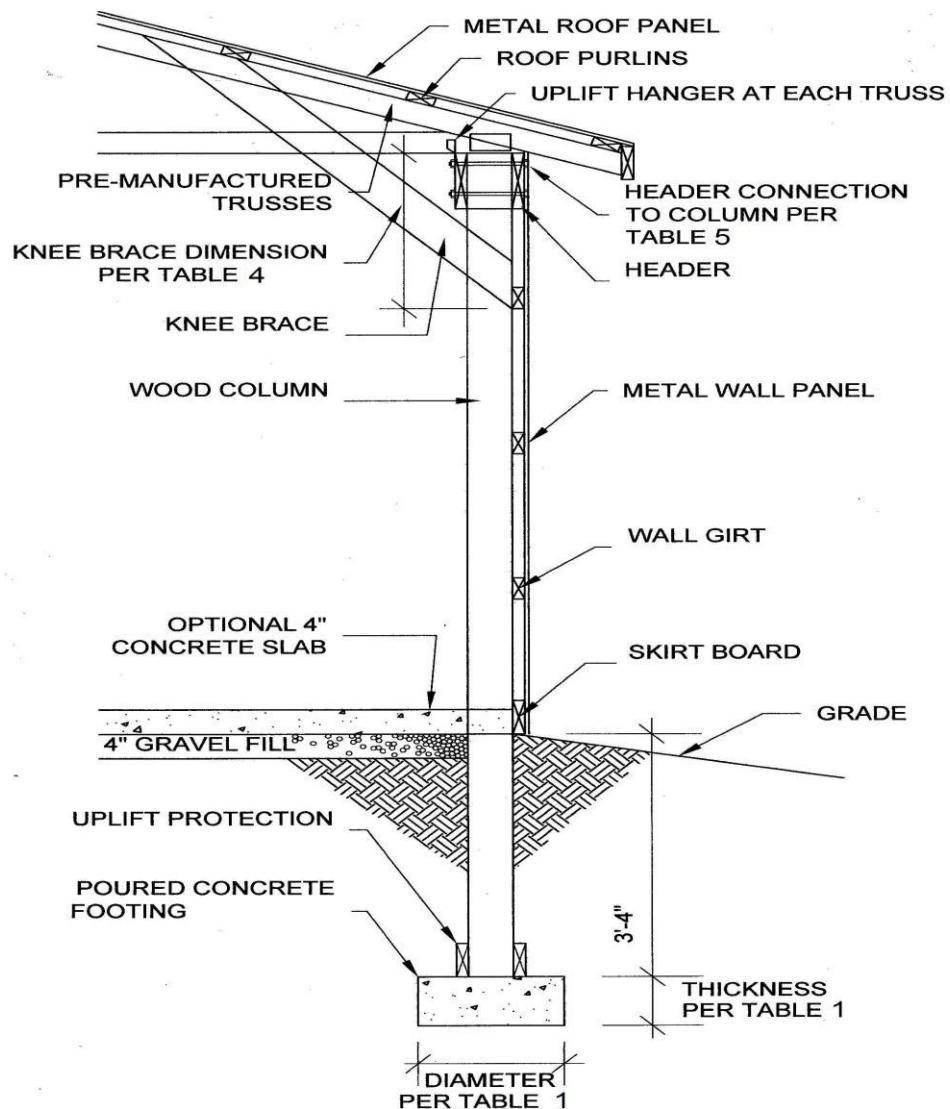

Figure 1
2. 12-inch high, concrete collar poured on top of footing around the post, with 2-#5x9 inch rebar placed through the post at 3 inches and 9 inches from bottom of post in opposite directions. See figure 1 and 2 on following pages.